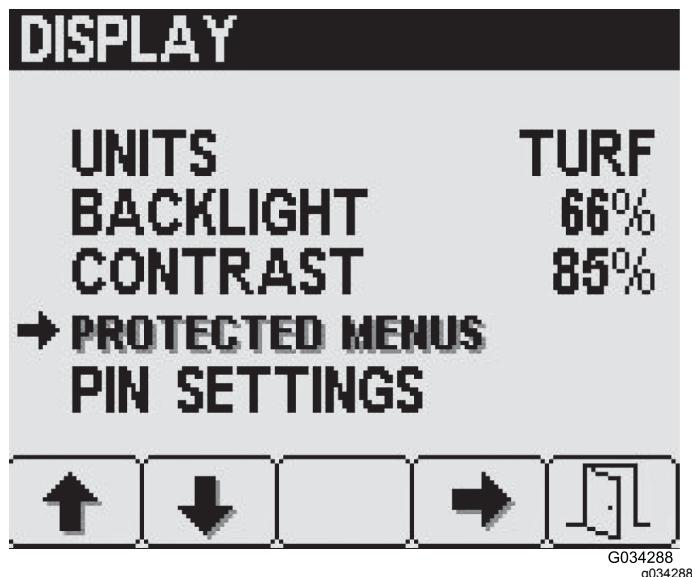

Figure 22
1. Press button 2 on the Display settings screen until you reach Protected Menus, then press button 4 to select Protected Menus (Figure 22).
2. Press button 2 until you reach the desired protected menu item (Figure 22).